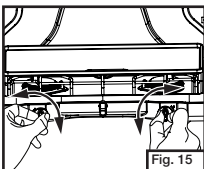

Fig. 15
- Adjust flame with burner valve. (Fig. 15) Flame should be blue with a hint of yellow on tips.